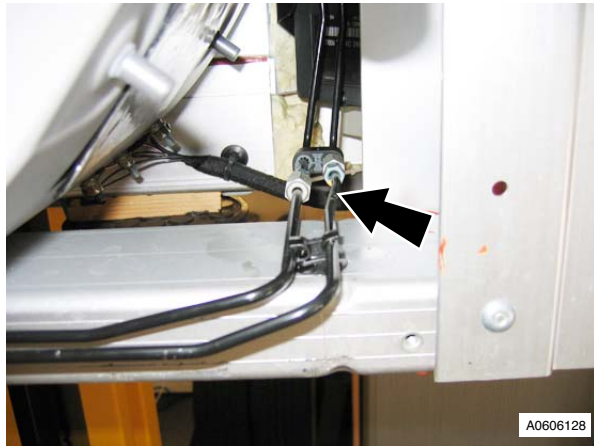

Fig. 2
11. Loosen and disconnect RH/LH brake tube union from in line connection (see Fig. 2).